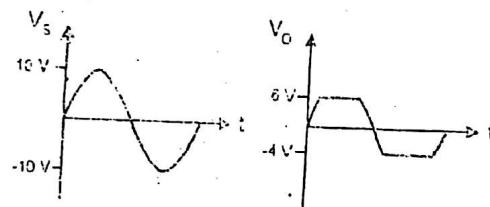

Figure 9
2. We need to clip signal in both half cycles like in figure 9.